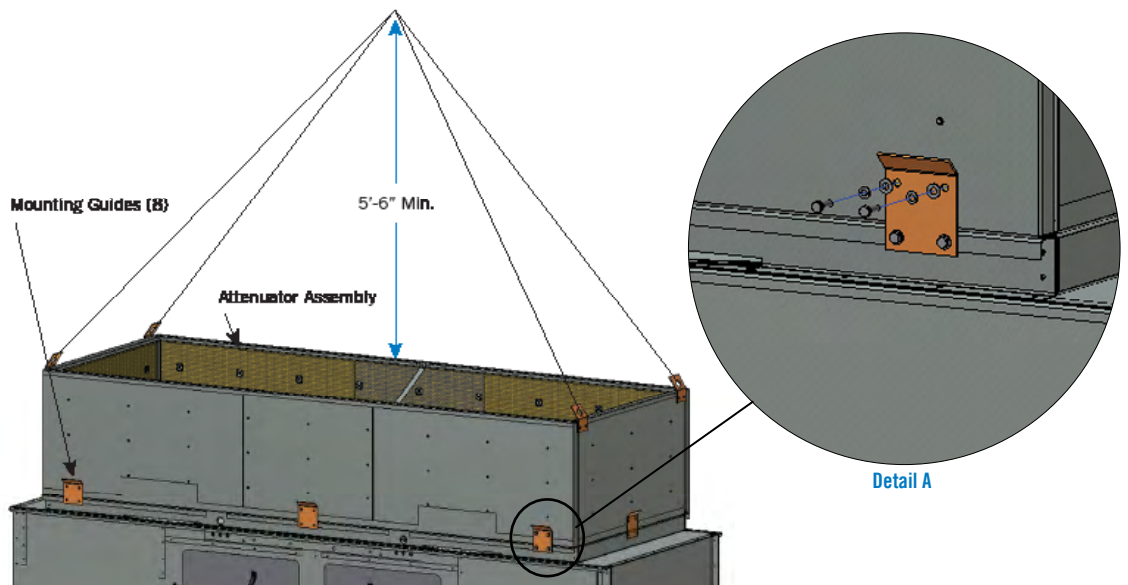

Figure 20. Discharge Sound Attenuation
2. Lower the attenuator assembly into position as shown in **Figure 20**.
3. Utilizing the supplied hardware, secure the attenuator assembly as shown in **Figure 20, Detail A**, to the mounting guides.